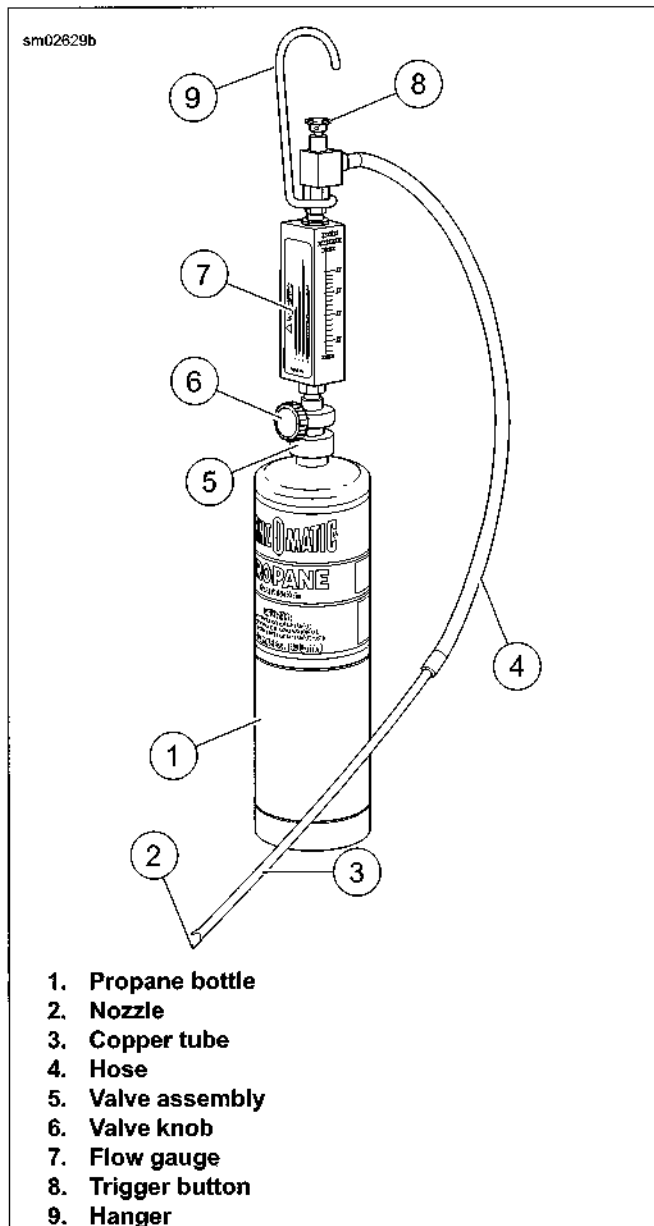

Figure 4-54. Leak Tester
- See Figure 4-54. Make sure valve knob (6) is closed (fully clockwise).
- Screw valve assembly (5) onto propane bottle (1).
- See Figure 4-54. Press and hold trigger button (8).
- Slowly open valve knob (6) until pellet in flow gauge (7) rises 5-10 SCFH on gauge.